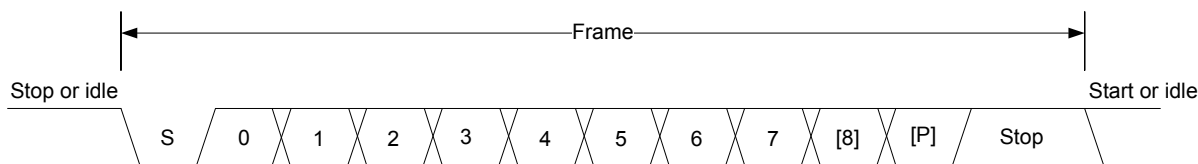

Figure 19.2. LEUART Asynchronous Frame Format
The frame format used by the LEUART consists of a set of data bits in addition to bits for synchronization and optionally a parity bit for error checking. A frame starts with one start-bit (S), where the line is driven low for one bit-period. This signals the start of a frame, and is used for synchronization. Following the start bit are 8 or 9 data bits and an optional parity bit. The data is transmitted with the least significant bit first. Finally, a number of stop-bits, where the line is driven high, end the frame. The frame format is shown in Figure 19.2 LEUART Asynchronous Frame Format on page 618.